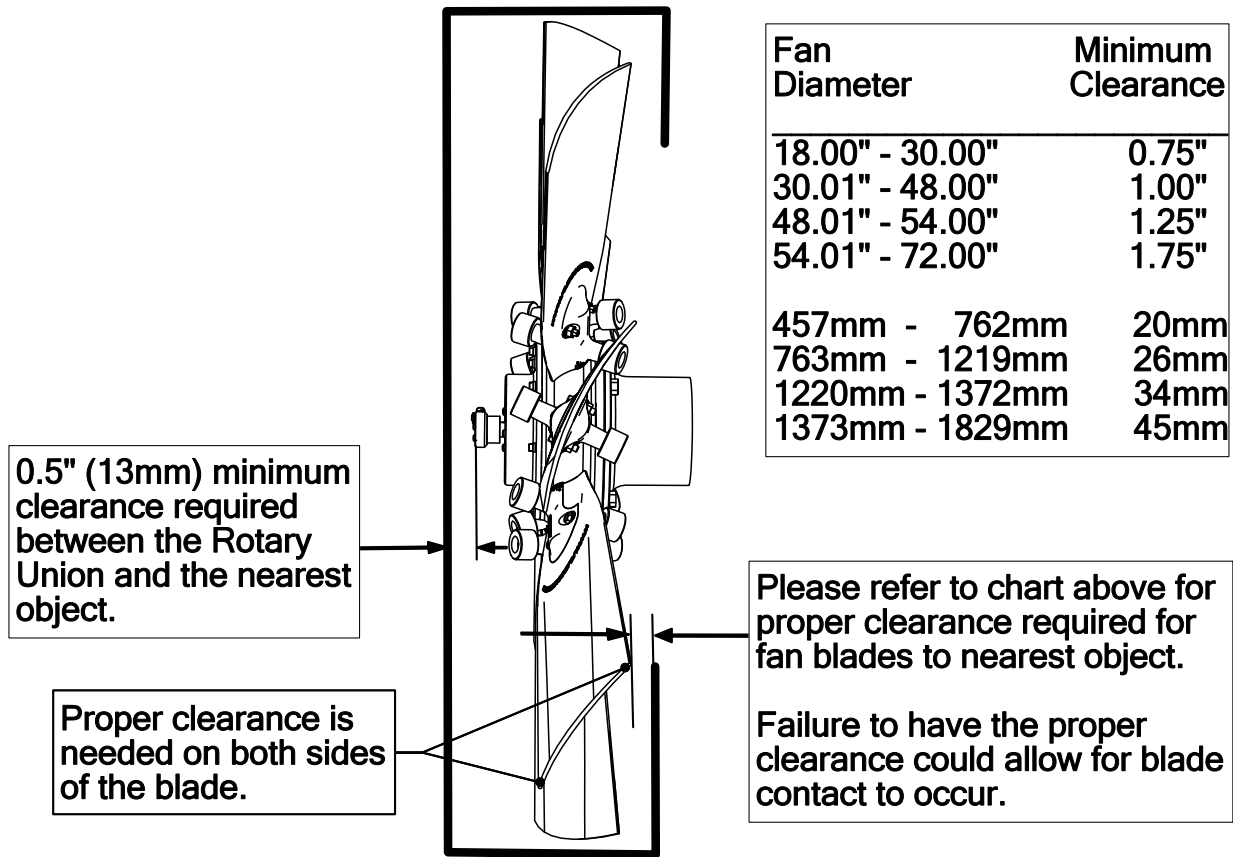

Figure 5
6. Ensure you have the correct blade clearance. See **Figure 5** for or a list of recommended minimum clearances based on fan diameter.
WARNING: Ensure that you have the minimum clearance between the rotary union and closest obstruction as per Figure 5 on page 5.
4. Verify that you have the correct blade clearance as per **Figure 5** on page 5.